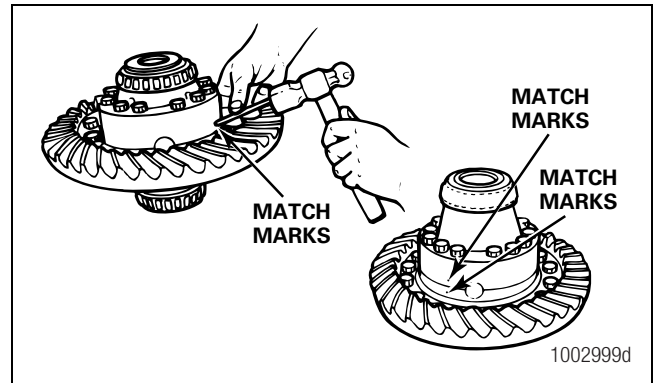

Figure 3.17
1. If the match marks on the case halves of the differential assembly are not visible, mark each case half with a center punch and hammer. Figure 3.17.